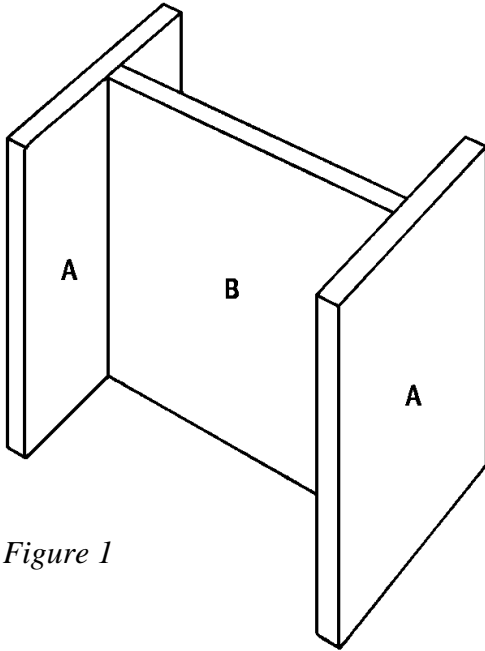

Figure 1
1. Cut four Vertical Dividers (A) from 1 x 12 pine, each measuring 9 inches.
2. Cut two Shelves (B) from 1 x 12 pine, each measuring 11-5/8 inches.
3. Place two Vertical Dividers (A) on edge on a flat surface, parallel to each other, and 11-5/8 inches apart. Center one Shelf (B) horizontally between the two Vertical Dividers (A), as shown in *Figure 1*. Apply glue to the meeting surfaces, and screw through the Vertical